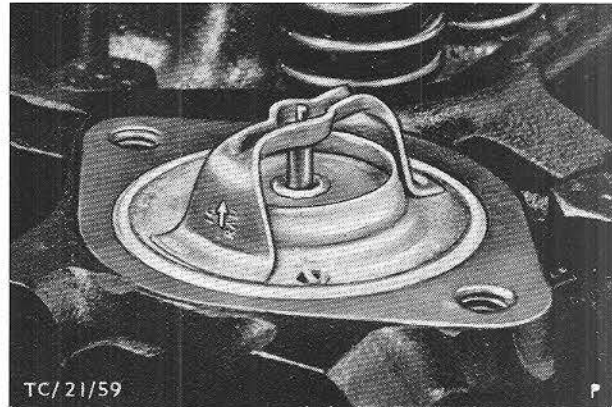

Fig. 61. Thermostat in position.
65. Insert thermostat into cylinder head, Fig. 61. Place gasket in position and fit water elbow.